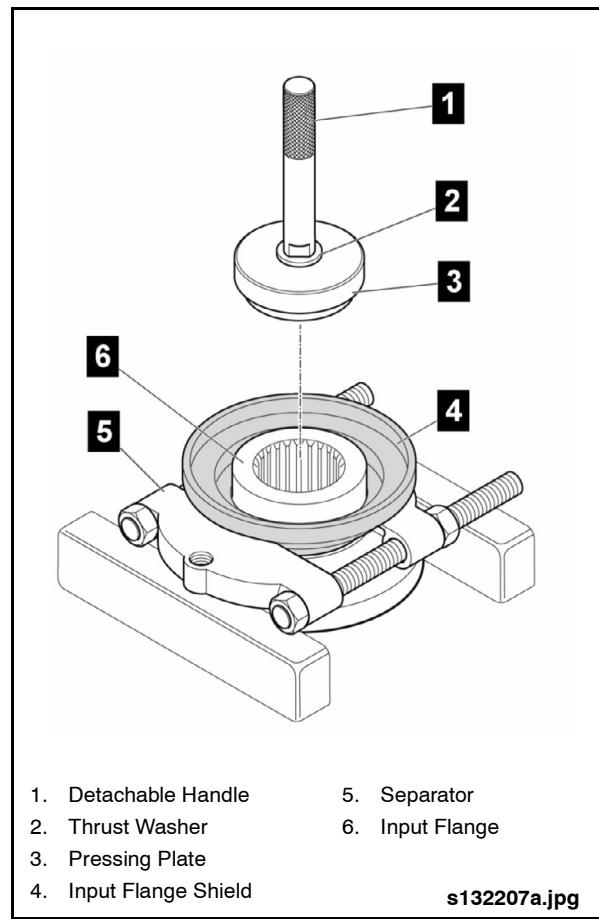

Fig. 2-36: Removing Input Flange Shield
1. Fit the Separator (Item 75 from Special Tools List) under the shield. See "Fig. 2-36: Removing Input Flange Shield" on page 34.